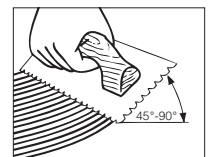

Figure 7
- Hold trowel at a minimum 45° angle (Figure 7) firmly against the subfloor to obtain a 40-60 ft.² (4-5 m²) per gallon spread rate. The trowel will leave ridges of adhesive and very little adhesive between the ridges. This will allow you to still see the chalk lines between the ridges and provide the recommended spread rate.